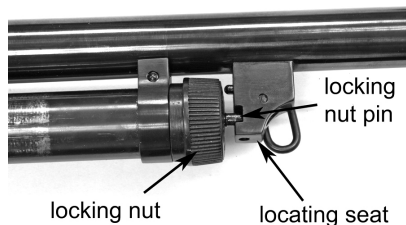

FIGURE 7
4. With the muzzle pointing away from you, turn the LOCKING NUT counterclockwise, until the ALIGNMENT PIN is no longer secured by the LOCKING SEAT (see FIGURE 7) and the barrel can be rotated to the left freely.
4. Rotate the barrel counterclockwise 1/4 turn, until the ALIGNMENT PIN fits into position on the LOCKING SEAT (see FIGURE 7).